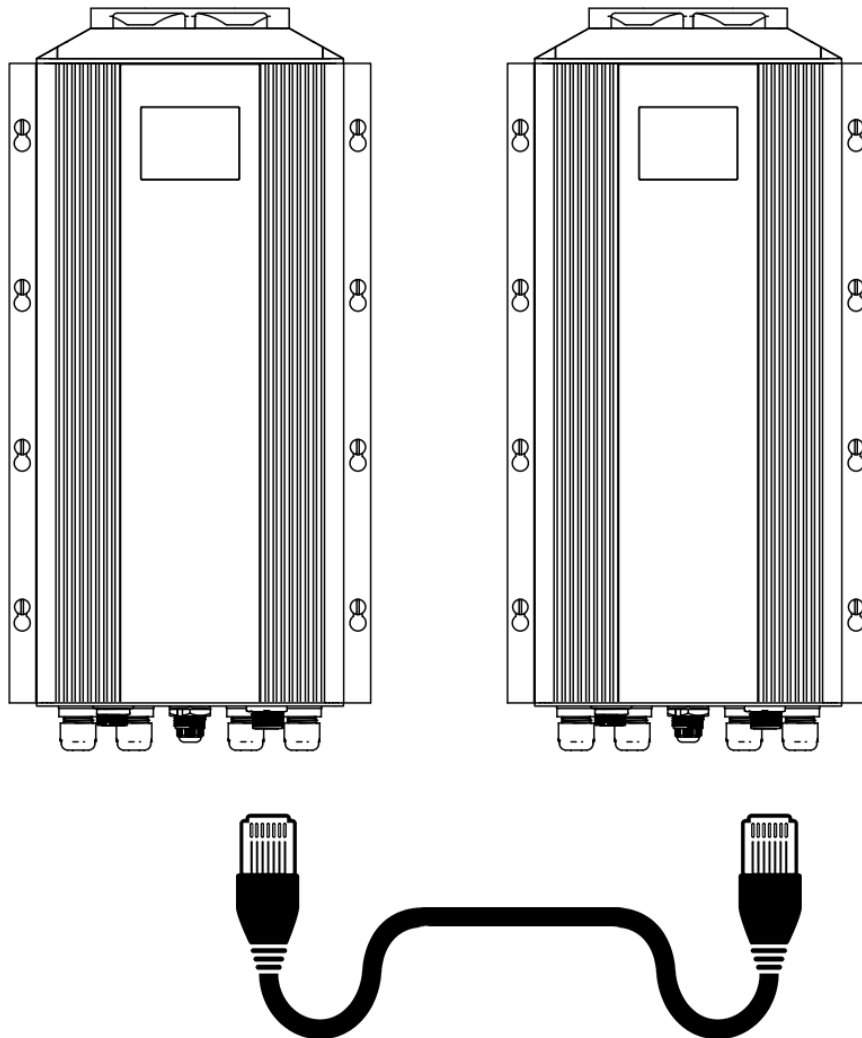

Figure 14: Connecting the SRX Comms for Master/Slave over CAN bus.
2. Link the two controllers via an **RJ45 Ethernet (CAT 5/6)** cable as demonstrated in **Figure 14** below.